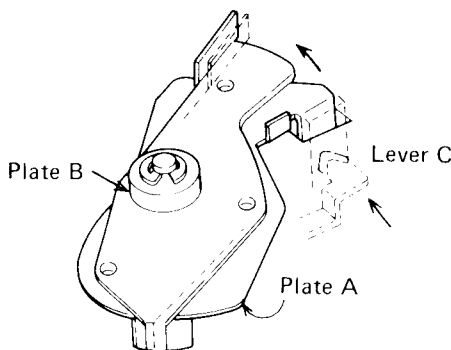

Fig. 3
2. Lever C pushes plate A by an amount directly proportional to the amount of movement of the tonearm (Fig. 3).